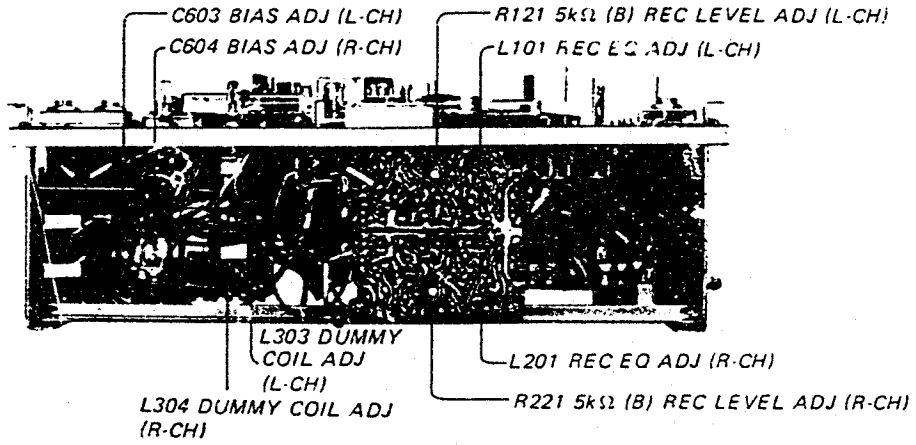
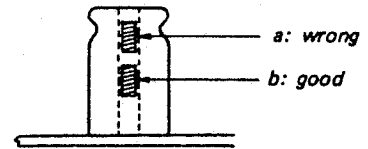

Fig. 4-3-1 Adjustment location
Fig. 4-3-4 Core setting of L101 (L201)
| | VTVM to test point and ground (See page 25, TP) | RECORD | L-CH: L301 1.8 mH See Fig. 4-3-1. | 1. Set the REC VOL controls 2. Adjust to obtain minimum | | | | | | | | | | | | |
| 78 mV to MIC | VTVM and 100kΩ resistor in parallel with LINE OUT jack | RECORD | L-CH: C603 30-200pF See Fig. 4-3-1. | 1. Set the MONITOR switch to MONITOR. 2. Turn the trimmer capacitors to minimum. 3. Recording the signal, turn the trimmer capacitors until the VTVM reads the maximum value. 4. Continue to turn the capacitors until the VTVM reading is maximum. 5. Adjust the trimmer capacitors until the VTVM reading is maximum. 6. Make sure that the reading is maximum. 7. If not, follow the steps 2-6. | | | | | | | | | | | | |
| 78 mV to MIC | VTVM and 100kΩ resistor in parallel with LINE OUT jack | RECORD | L-CH: R121 5kΩ (B) See Fig. 4-3-1. | 1. Set the MONITOR switches to MONITOR. 2. Feeding the signal, slide the REC VOL control to 0 VU (100%). 3. Record the signal on a blank tape. 4. Set the MONITOR switches to MONITOR. 5. Adjust R121 (R221) so that the VTVM reading is maximum. | | | | | | | | | | | | |
| 24.5μV to MIC | VTVM and 100kΩ resistor in parallel with LINE OUT jack | RECORD | L-CH: L101 1.8/1.45 mH See Fig. 4-3-1. | 1. Set the MONITOR switches to MONITOR. 2. Record an 1 kHz signal of -10 dB. 3. Record a 20 kHz signal of -10 dB. Note: Two peaks appear during recording. See Fig. 4-3-4. | | | | | | | | | | | | |
| | VTVM to test point (See page 25, TP) | RECORD | at mode L-CH: L304 See Fig. 4-3-1. | 1. Set the REC VOL controls to MONITOR. 2. Read the VTVM readings on the L-CH and R-CH. 3. Set the machine in L-CH RECORD mode. 4. Adjust L304 so that VTVM reading is maximum. 5. Set the machine in R-CH RECORD mode. | | | | | | | | | | | | |
| L301 R-CH: L302 1.8 mH e Fig. 4-3-1. | 1. Set the REC VOL controls (R135 & R235) to minimum. 2. Adjust to obtain minimum reading on VTVM. | | | | | | | | | | | | | | | | | | | | | | | | |
| C603 R-CH: C604 30-200pF e Fig. 4-3-1. | 1. Set the MONITOR switch to TAPE position. 2. Turn the trimmer capacitors counterclockwise and set them in minimum capacitance position. 3. Recording the signal, turn the trimmer capacitor (C603, L-CH) clockwise slowly until the VTVM reads the maximum value. 4. Continue to turn the capacitor until the VTVM reads a value 0.5 dB below the maximum reading. Read the VTVM reading. 5. Adjust the trimmer capacitor (C604, R-CH) in the same way. 6. Make sure that the reading of L-CH is the same as the one reading in the step 4. 7. If not, follow the steps 2-6 again. | | | | | | | | | | | | | | | | | | | | | | | | |
| R121 R-CH: R221 5kΩ (B) e Fig. 4-3-1. | 1. Set the MONITOR switches (S105 & S205) to SOURCE position. 2. Feeding the signal, slide the REC VOL controls (R135 & R235) so that the level meters indicate 0 VU (100%). 3. Record the signal on a blank tape. 4. Set the MONITOR switches (S105 & S205) to TAPE position. 5. Adjust R121 (R221) so that VTVM indicates 0 dB (0.775V). | | | | | | | | | | | | | | | | | | | | | | | | |
| L101 R-CH: L201 1.8/1.45 mH e Fig. 4-3-1. | 1. Set the MONITOR switches (S105 & S205) to TAPE position. 2. Record an 1 kHz signal of -90 dB (24.5μV) on a blank tape and read the VTVM reading. 3. Record a 20 kHz signal of -90 dB (24.5μV) and adjust L101 (L201) so that VTVM reading is the same as the one of 1 kHz signal. Note: Two peaks appear during turning L101 (L201). Take the peak where the core is "b" position shown in Fig. 4-3-4. | | | | | | | | | | | | | | | | | | | | | | | | |
| e at mode L304 R-CH: L303 See Fig. 4-3-1. | 1. Set the REC VOL controls (R135 & R235) to minimum. 2. Read the VTVM readings of both channels. 3. Set the machine in L-CH RECORD mode. 4. Adjust L304 so that VTVM reading is the same as the one reading in the step 2. 5. Set the machine in R-CH RECORD mode and adjust L303 in the same way. | | | | | | | | | | | | | | | | | | | | | | | | |